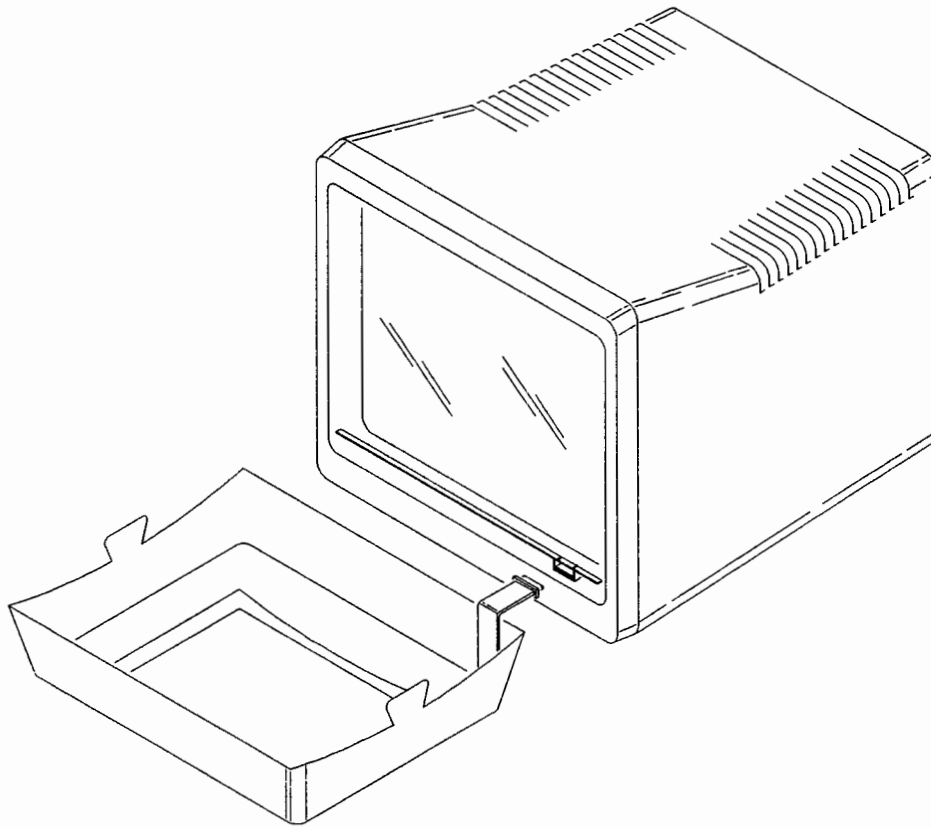

Figure 6-3.
4. Place HP Touch flat on the table in front of the monitor so that the plug on the end of the HP Touch ribbon cable lines up with the socket on your monitor (Figure 6-3).